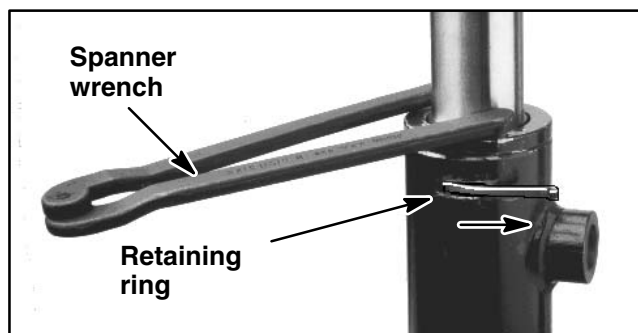

Figure 45
3. Rotate head (item 8) with a spanner wrench and remove retaining ring (item 6) as shown in Figure 45.
5. Mount rod securely in a vise by clamping vise on the flats of the pivot. Remove retaining ring (item 1) and carefully slide head from the shaft.
6. Remove and discard o-ring (item 4), backup ring (item 5), seal (item 7) and wiper (item 9) from the head.